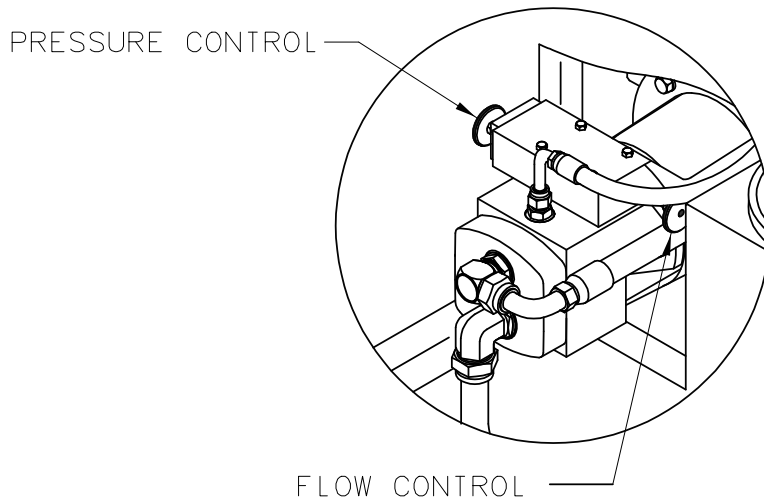

FIGURE 6.3.5 – Hydraulic Pump Controls
- Pump Control Access See **Figure 6.3.5 – Hydraulic Pump Controls**.